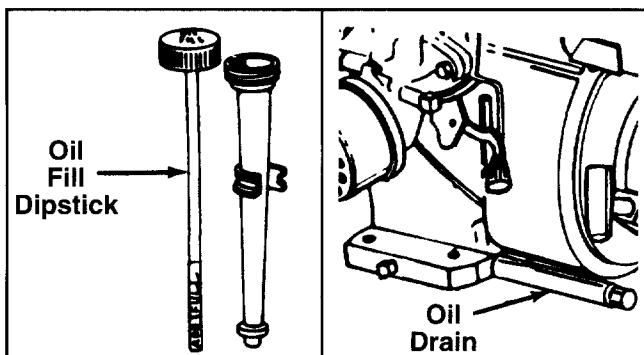

FIGURE 12.
- Use engine oil provided. Remove oil fill dipstick. See figure 12. With chipper-vacuum level, use a funnel to fill engine with oil to FULL mark on dipstick. Capacity is approximately 20 ounces. **Be careful not to overfill.** Oil bottle provided contains 20 oz. of oil. Tilt chipper-vacuum toward the left (from behind the hopper), then re-level. Check oil level. Refill to FULL mark on dipstick if necessary. Replace dipstick and tighten.
Your four-cycle engine will normally consume some oil—therefore, check engine oil level regularly approximately every five hours of operation and before each usage. Stop engine and wait several minutes before checking oil level. With engine cooled down, the oil level must reach FULL mark on dipstick (refer to figure 12). Change engine oil after the first five hours of operation, and every twenty-five hours thereafter.
- Remove oil drain cap. Refer to figure 12. Catch oil in a suitable container.